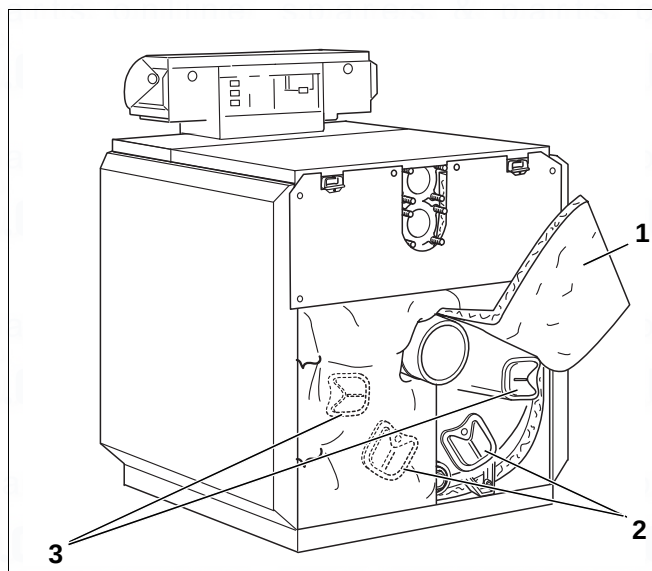

Fig. 52 Disassembly – cleaning access cover
- Fold both ends of the thermal insulation up (Fig. 52, [1]) and fasten in this position with the tensioning springs.
- Remove the cleaning access covers from the rear section (Fig. 52, [2]) and the flue gas header (Fig. 52, [3]).